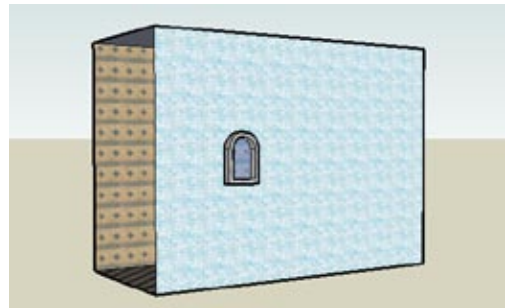

Figure 1-19
1. Start with a model like the one shown in Figure 1-19, which has one window in the middle of the front wall. You can create your model from scratch, or download my Internal Linear Array model from the 3D Warehouse. The window should be a component.